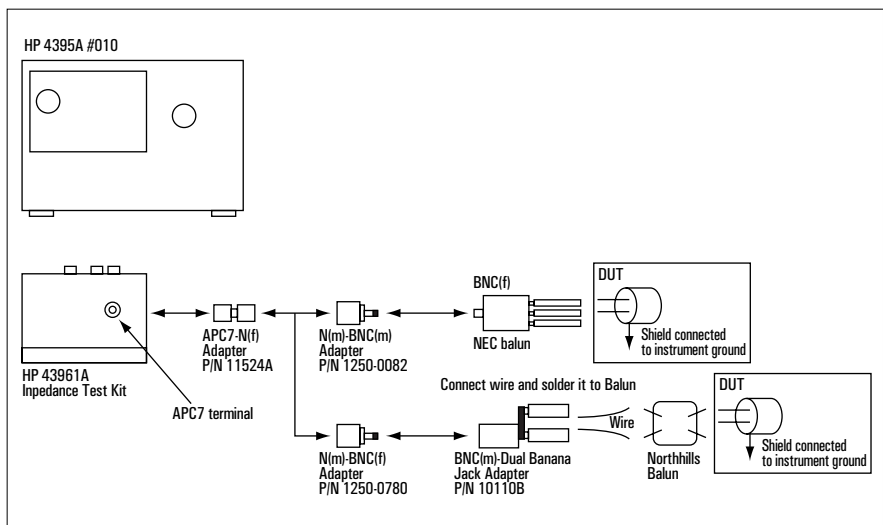

Figure 6. Measurement Configuration (2)
Figure 6 shows impedance measurement configuration (2) with the HP4395A.